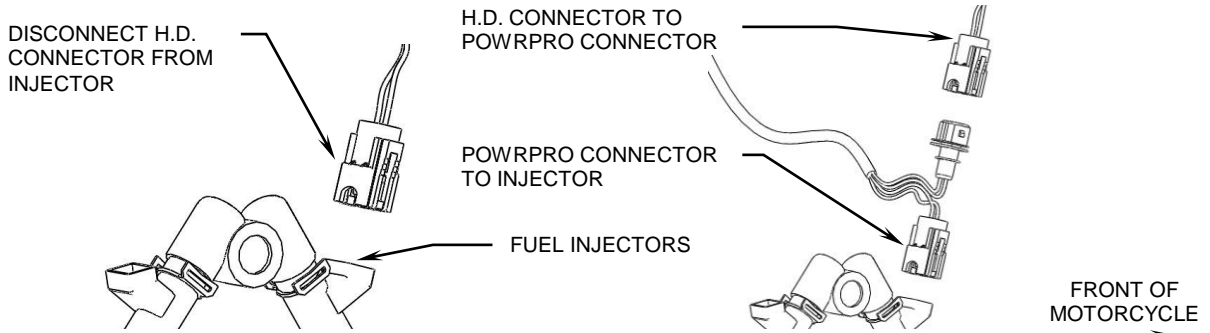

FIGURE 2
3. Locate the factory connector on each fuel injector. Depress the clips on the connector and pull the connector free and move it out of the way. **Note:** A pair of needle nose pliers and a long flat blade screwdriver helps with this job, see Figure 2.
4. Attach one pair of Fi2000 module's injector plugs labeled 'FRONT' to the front injector. Take the original H.D. connector and insert the corresponding Fi2000 connector into it, refer to Figure 2.
5. Attach the Fi2000 module's remaining injector plug onto the rear injector. Then take the original H.D. connector and insert the corresponding Fi2000 connector into it, refer to Figure 2.